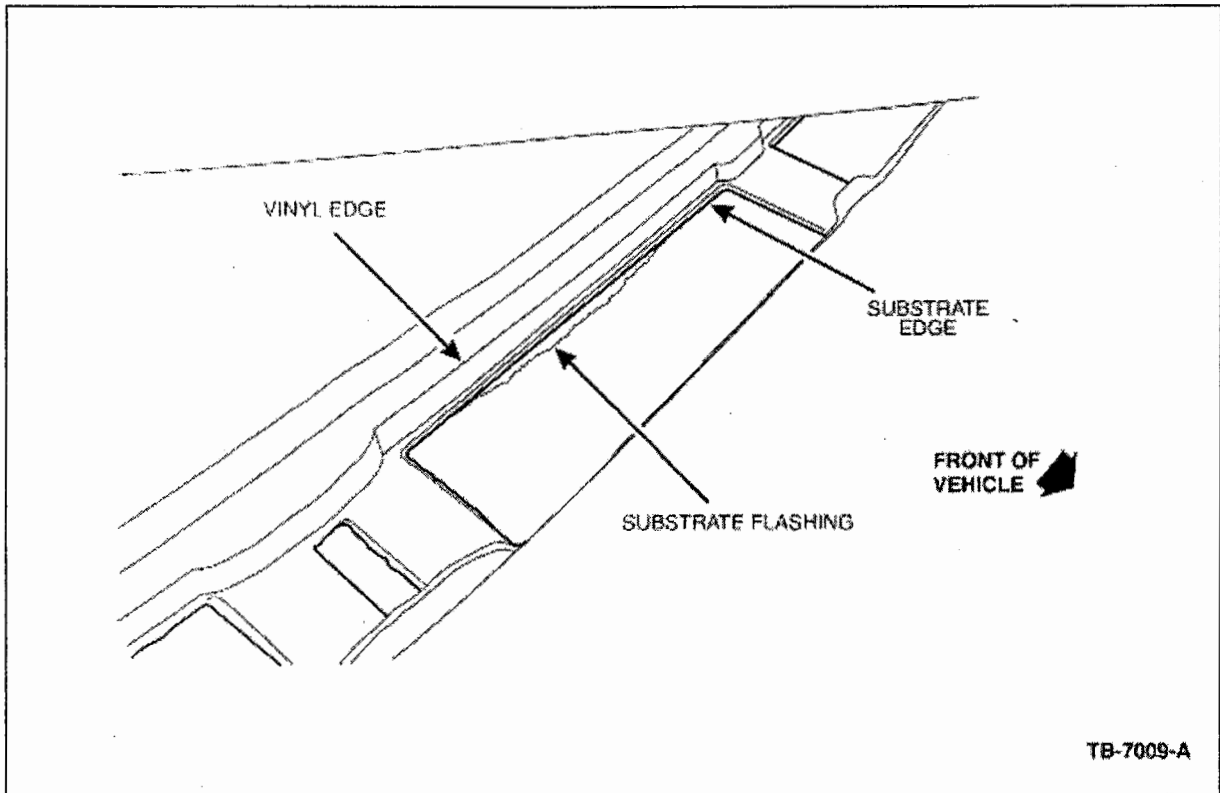

Figure 8 - Article 03-4-6
16. Using a stiff knife, scrape any excess black substrate material or substrate flashing from along the inside edge of the defroster duct openings. Make sure the substrate is scraped back even to or just past the vinyl material (Figure 8).